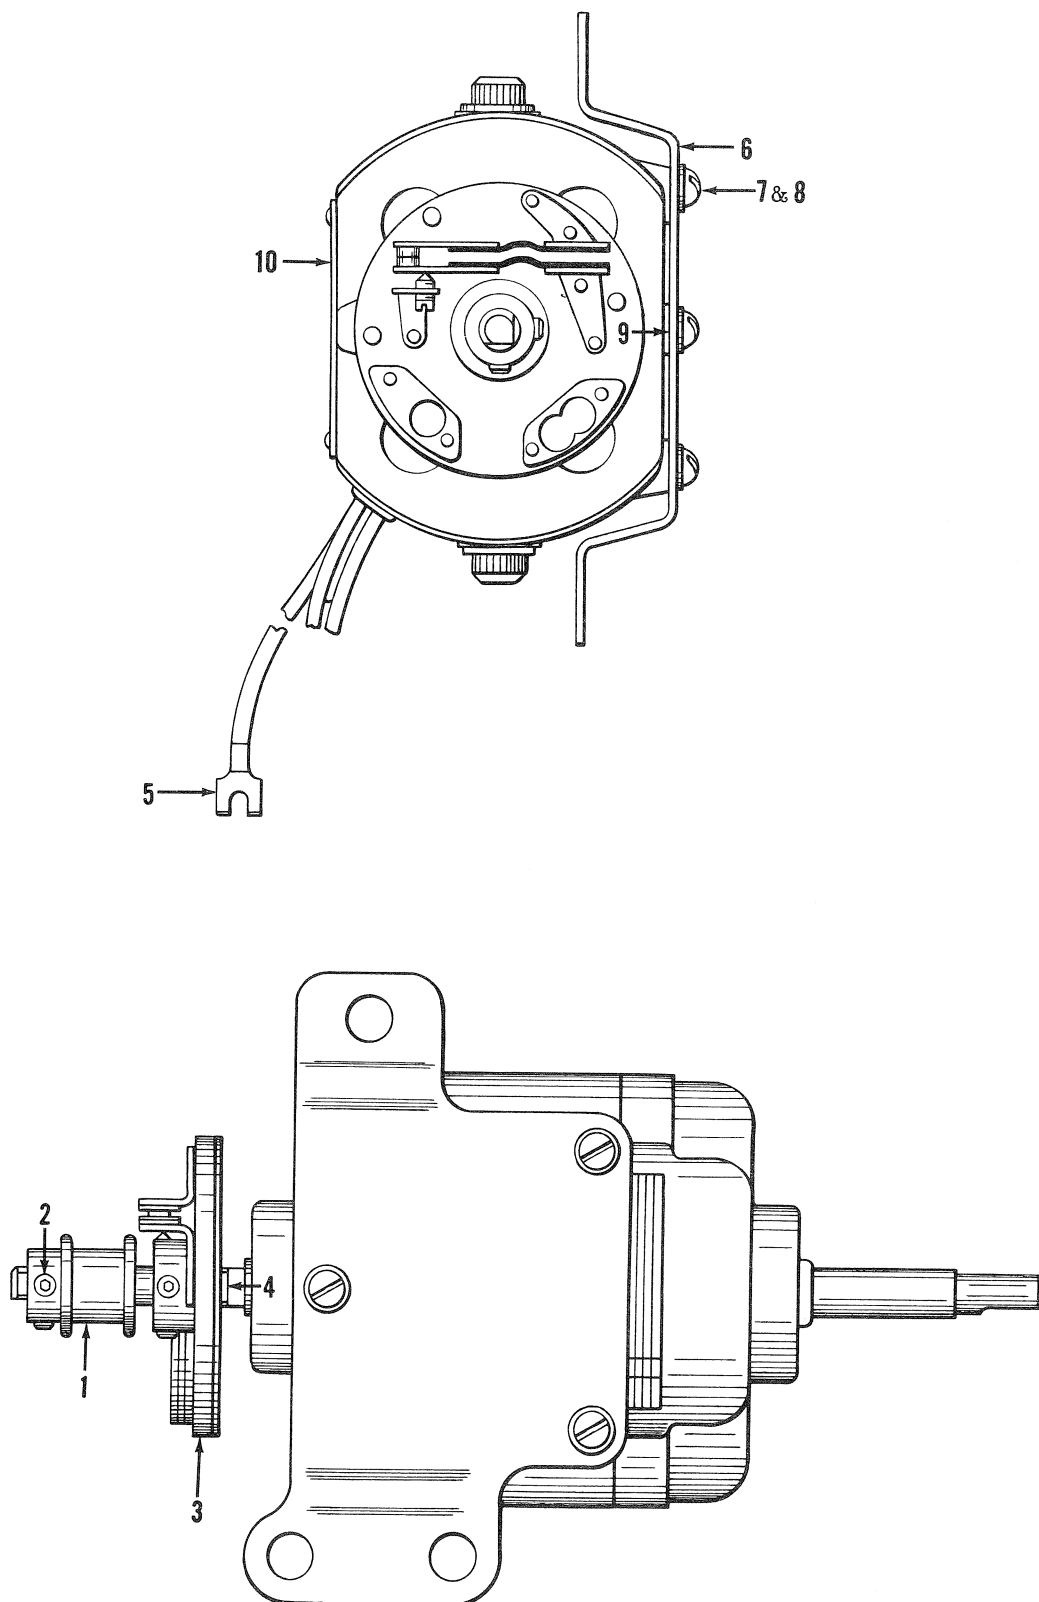

Figure 25. MOTOR ASSEMBLY (BODINE)
NOTE: Delco motors and replacement parts have been exhausted (except indexes 1, 2, and 3, figure 25) and it will be necessary to replace with Bodine motors. When making this replacement, proceed as follows:
1. Remove the following from Delco motor; set screw, motor pulley and governor (indexes 1, 2, and 3, figure 25).